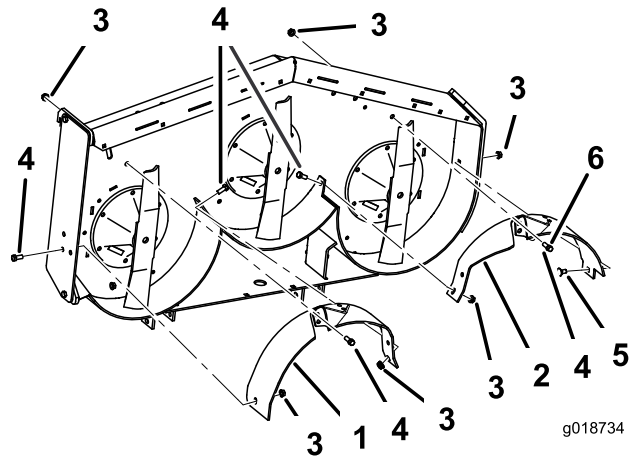

Figure 6
2. Loosely install the right baffle to the mower deck with 2 bolts (3/8 x 7/8 inch) and 2 flange nuts (3/8 inch) (Figure 6).
3. Loosely install the right baffle to the discharge plate with 1 bolt (3/8 x 7/8 inch) and 1 flange nut (3/8 inch) (Figure 6).
5. Loosely install the left baffle to the mower deck with 2 bolts (3/8 x 7/8 inch) and 2 flange nuts (3/8 inch) (Figure 6).
6. Loosely install the left baffle to the left sidewall of the mower deck with 1 carriage bolt (3/8 x 3/4 inch) and 1 flange nut (3/8 inch) (Figure 6).